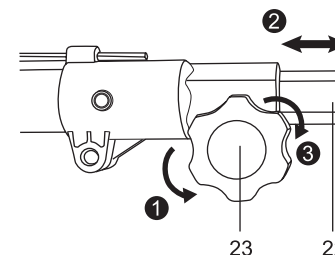

Fig. 23
1. Loosen the locking knob (23) by turning in a counter-clockwise direction and adjust the pole extension (22) to the required length. (Fig. 23)
2. Tighten the locking knob (23) by turning in a clockwise direction. (Fig. 23)